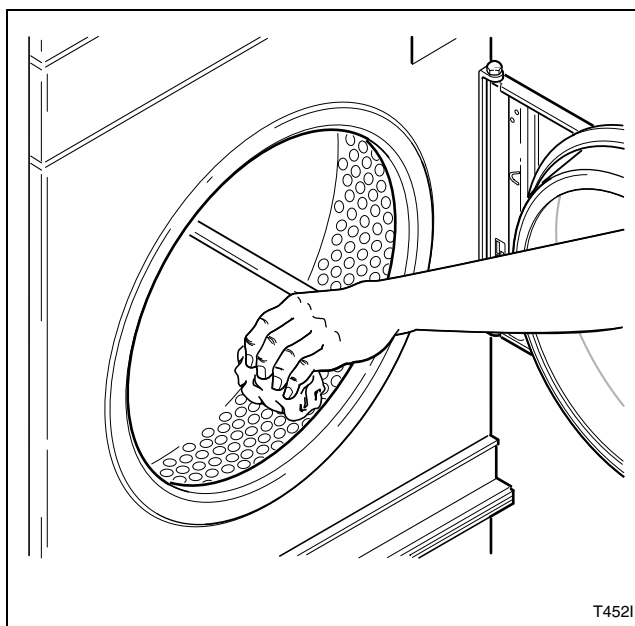

Figure 5
8. Wipe out the cylinder using an all-purpose cleaner or detergent and water solution. Refer to *Figure 5*.